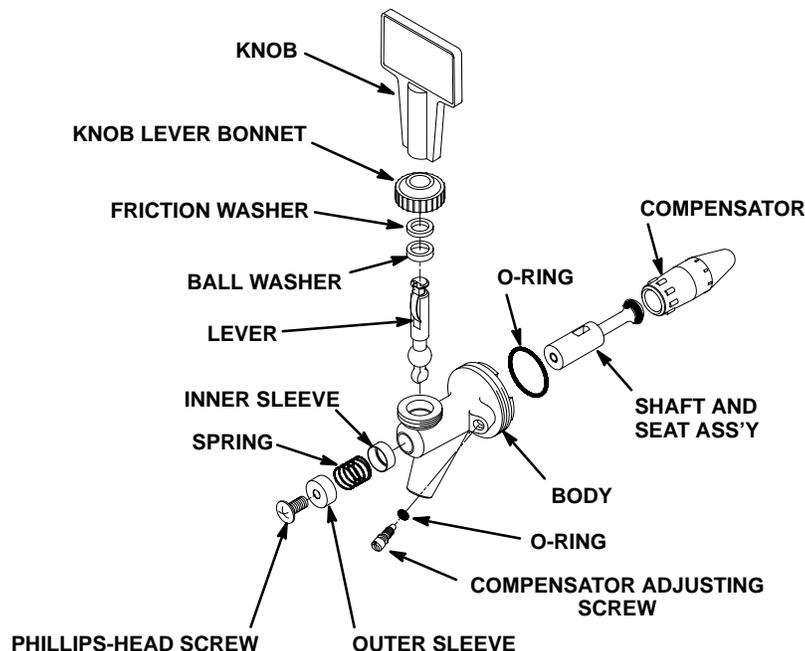

FIGURE 6. DISPENSING VALVE PARTS IDENTIFICATION
NOTE: An alternate to the preferred sanitizing procedure outlined below would be to remove dispensing valve, then make necessary connections to circulate sanitizing solution through the product systems. After systems have been sanitized, dispensing valves may then be disassembled (see Figure 6) and cleaned before re-installing on Unit.
5. Remove phillips-head screw on end of the dispensing valve (see Figure 6), then remove outer sleeve, spring, and inner sleeve.